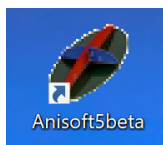

Figure 41: Icon of the Anisoft5 software on the KAPPA computer desktop
1. Open Anisoft5 software. The most recent (beta) version, Anisoft5beta (released on May 20, 2022) is installed on the KAPPA computer (Figure 41).